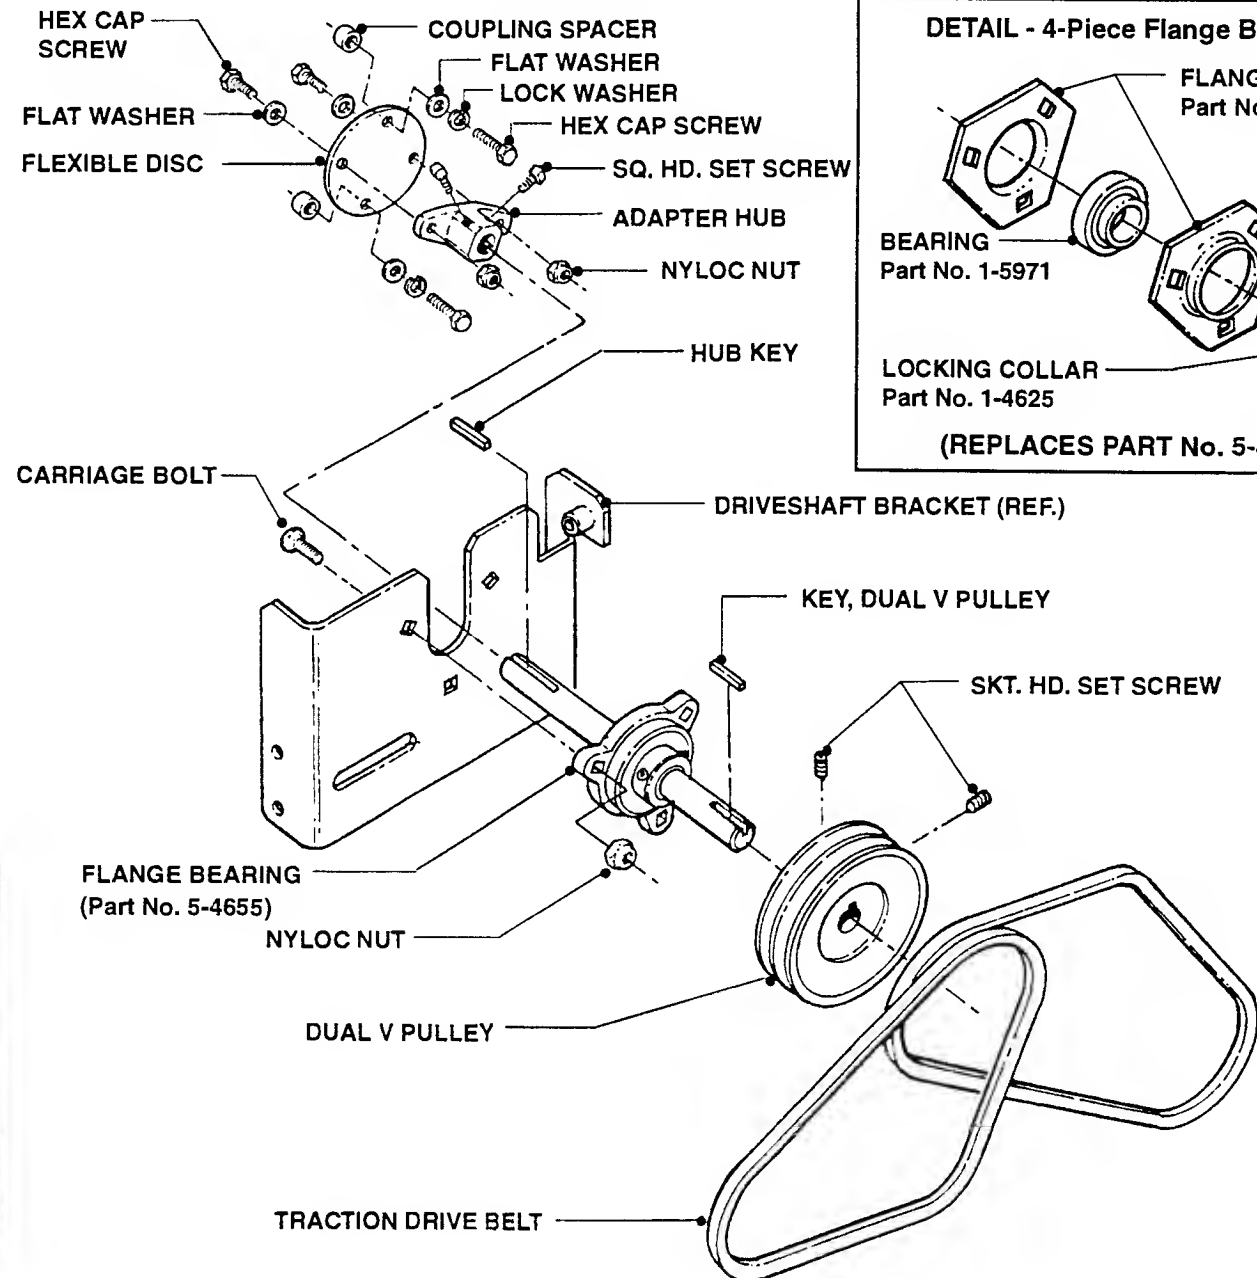

FIGURE 4.12
1. Loosen Set Screws on Flange Bearing Lock Collar. See Figure 4.12, Pg. 4.6.
2. Loosen the three (3) 5/16 - 18 Hex Nyloc Flange Bearing Mounting Nuts until Bearing will move freely.
3. Loosen the two (2) 5/16 - 18 x 5/8" Skt. Hd. Set Screws on the Dual V Drive Pulley.
- C. Slide Upper Drive Shaft into Adapter Hub. Secure loosely with the two (2) Sq. Hd. Set Screws found on the Hub.